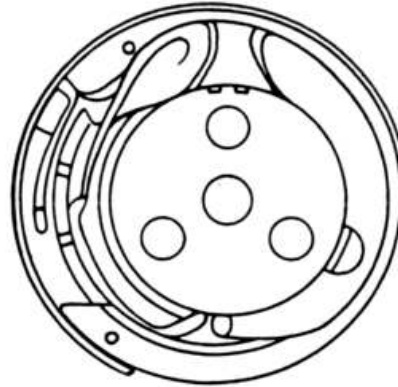

Fig. 24c
- Turn the handwheel until the opening of the sewing hook faces to the left (fig. 24c).